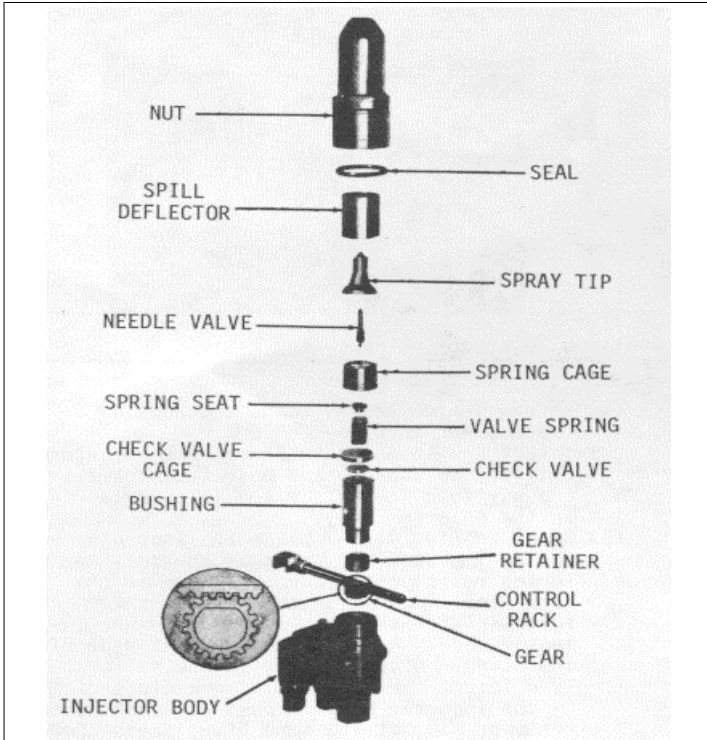

Fig. 37
- (6) Refer to Fig. 37 and remove the spill deflector. Then lift the bushing straight out of the injector body.
- (7) Remove the injector body from the holding fixture. Turn the body upside down and catch the gear retainer and gear in your hand as they fall out of the body.
- (8) Withdraw the injector control rack from the injector body. Also remove the seal ring from the body.
Refer to Fig. 37 and note the drill spot marks on the control rack and gear. Then proceed as follows:
- (1) Hold the injector body, bottom end up, and slide the rack through the hole in the body. Look into the body bore and move the rack until you can see the drill marks. Hold the rack in this position.
- (2) Place the gear in the injector body so that the marked tooth is engaged between the two marked teeth on the rack (Fig. 37).
- (3) Place the gear retainer on top of the gear.
- (4) Align the locating pin in the bushing with the slot in the injector body, then slide the end of the bushing into place.
Refer to Fig. 37 and assemble the parts as follows: